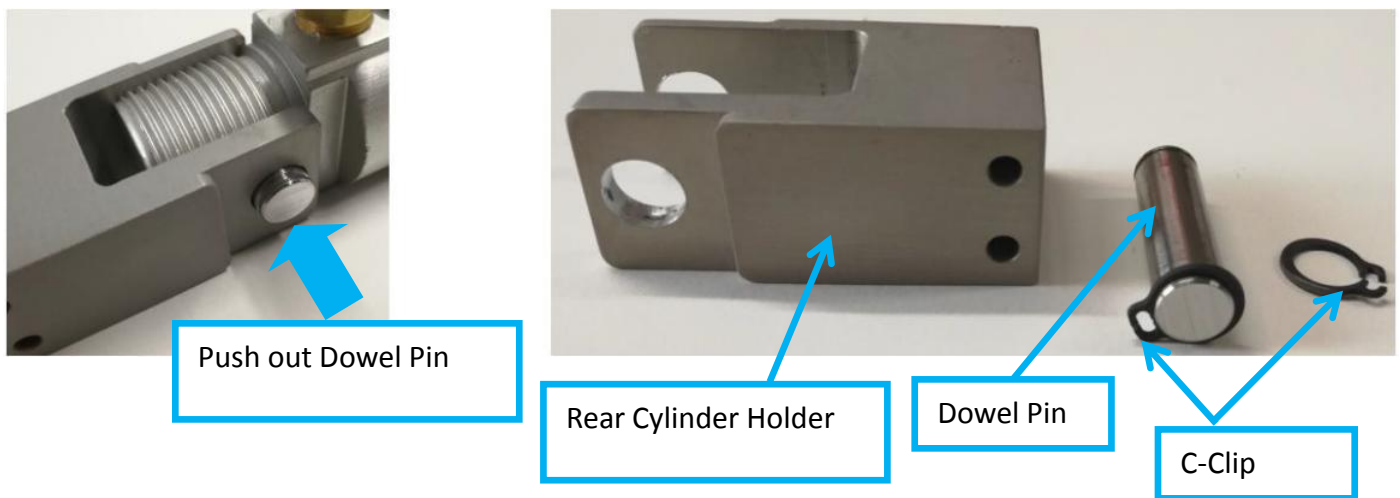

Figure 13
17. Gently push out the Dowel Pin from Rear Cylinder Holder as Figure 13. Remove dowel pin & Rear Cylinder Holder as Figure 13